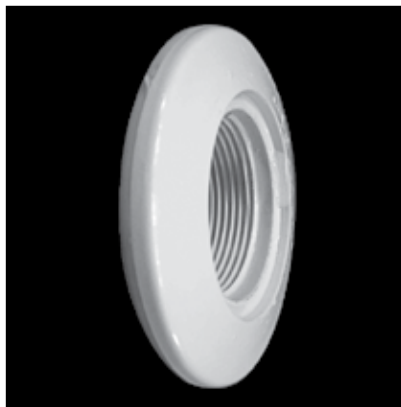

FIGURE 1
2. Locate the Automatic Cleaner Line or the Pool Return under the water's surface. (For most in-ground pools, there are multiple pool returns.) (**Figure 1** - Automatic Cleaner Line or Pool Return)